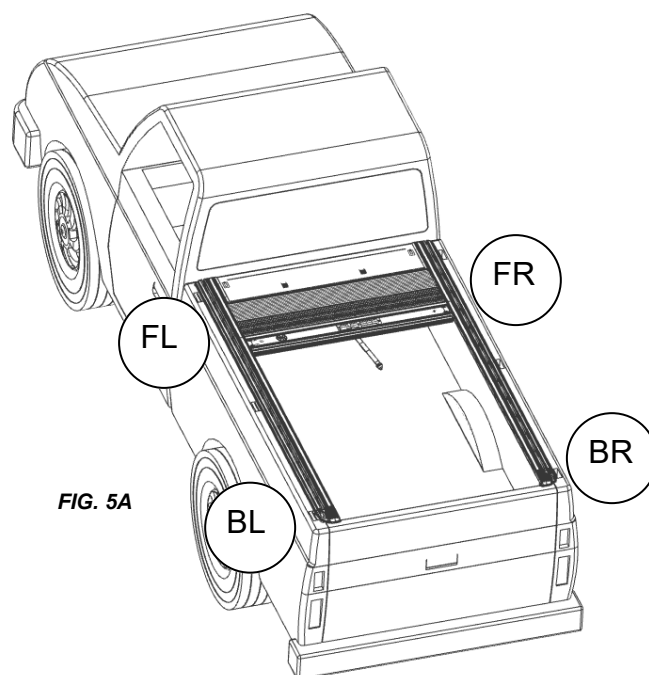

FIG. 5A
Slide the clamp extensions from the tailgate end of each rail as pictured in Figure 5A-5E. Ensure that your tailgate end and cab end extensions are in the correct orientation. Each clamp extension is labeled for front left (FL), front right (FR), back left (BL), and back right (BR). The extensions go on the corners shown in figure 5A.